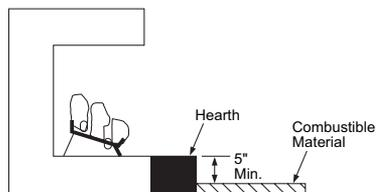

Figure 9 - Minimum Fireplace Clearances Above Combustible Flooring
- B. If combustible materials are less than 14" to the fireplace, you must install appliance at least 5" above the top surface of combustible flooring including tile and carpet. (see Figure 9).